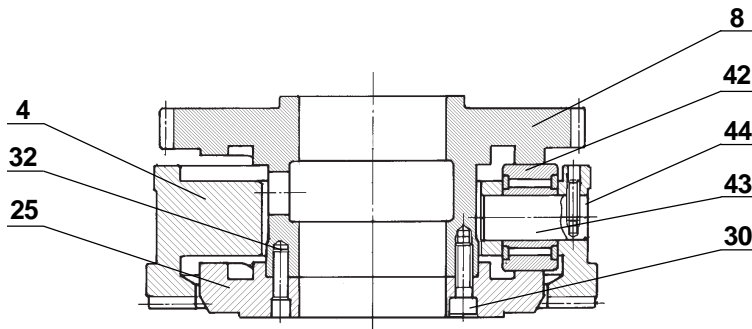

FIG.17.1
- \* Drum cam assembly (fig 17.1) along with the sliding coupling (4) can now be removed.
- \* Remove screws (30) to separate two parts of drum cam as well as the sliding coupling.
#### 17.11. Drum Cam Sub-assembly (Fig 17.1) :
Assemble all components as shown in figure 17.1. Screws (30) and (44) should be tightened firmly after coating them with anti vibration solution like Lock-tite. Check for free movement of sliding coupling rollers in drum cam groove.